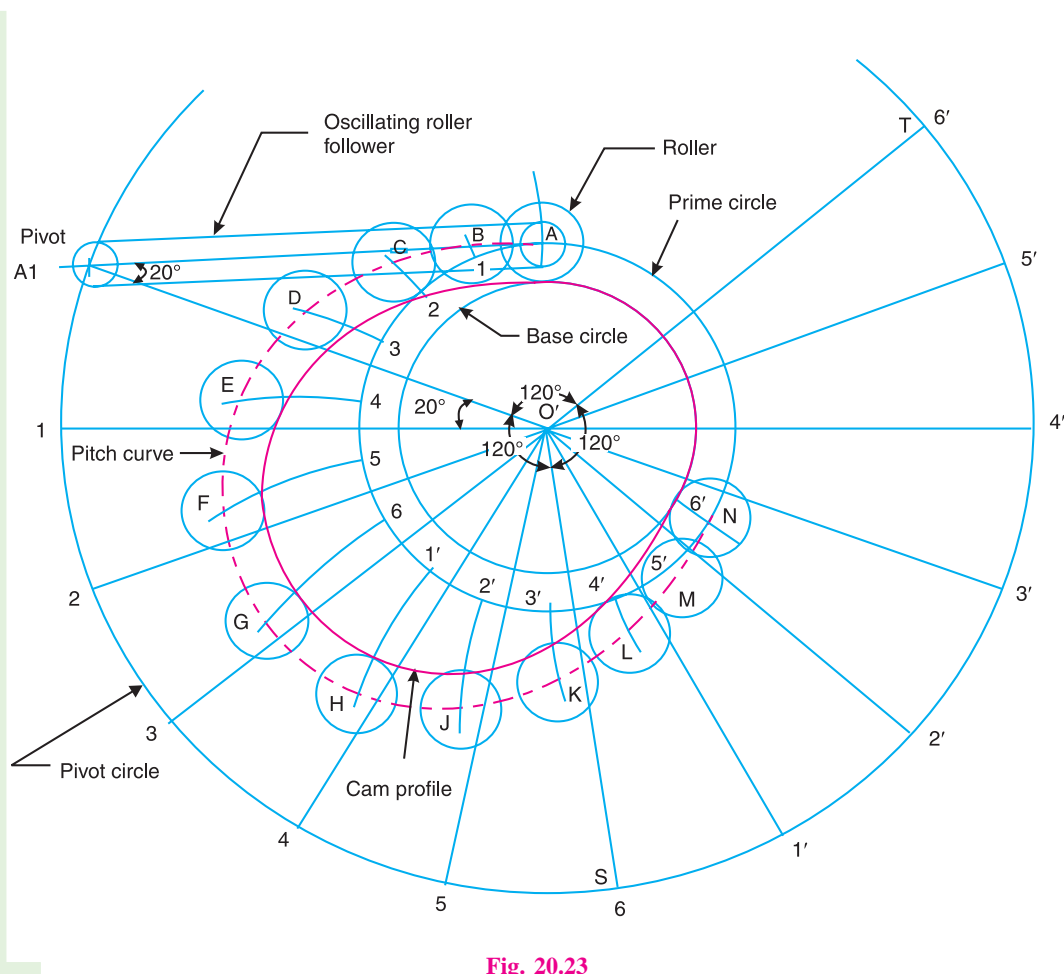

Fig. 20.23
The profile of the cam to drive an oscillating roller follower, as shown in Fig. 20.23, is drawn as discussed in the following steps :
10. Join the bottoms of the circles with a smooth curve as shown in Fig. 20.23. This is the required profile of the cam.